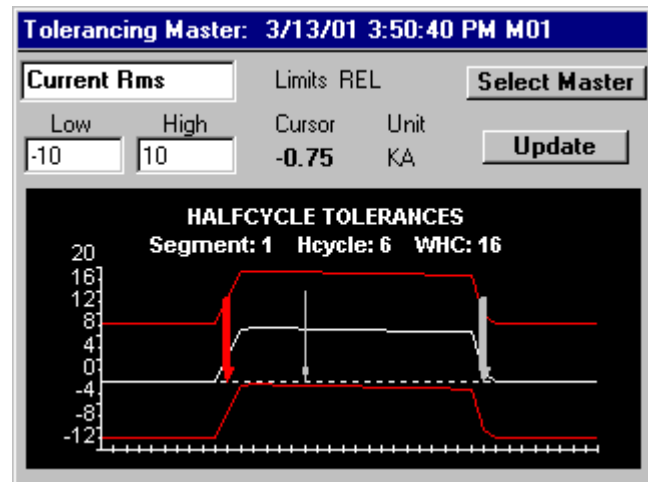

Figure 5-18 Tolerancing screen
1. From the **Main Menu**, select **Tolerancing**. If nothing comes up, press the **Select Master** button and highlight the master we just made. Press SELECT. Your screen should look similar to figure 5-18.